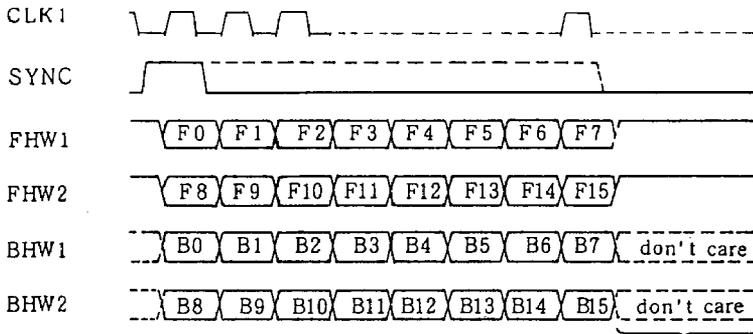

Fig. 2 When CLK is 128 KHz or above
(2) Highway pins
- FHW1 (pin 15) and FHW2 (pin 16) See Figs. 2 to 6.
- BHW1 (pin 9) and BHW2 (pin 10) See Figs. 2 to 6.
- \overline{S}/P (pin 37) See Figs. 2 and 3.